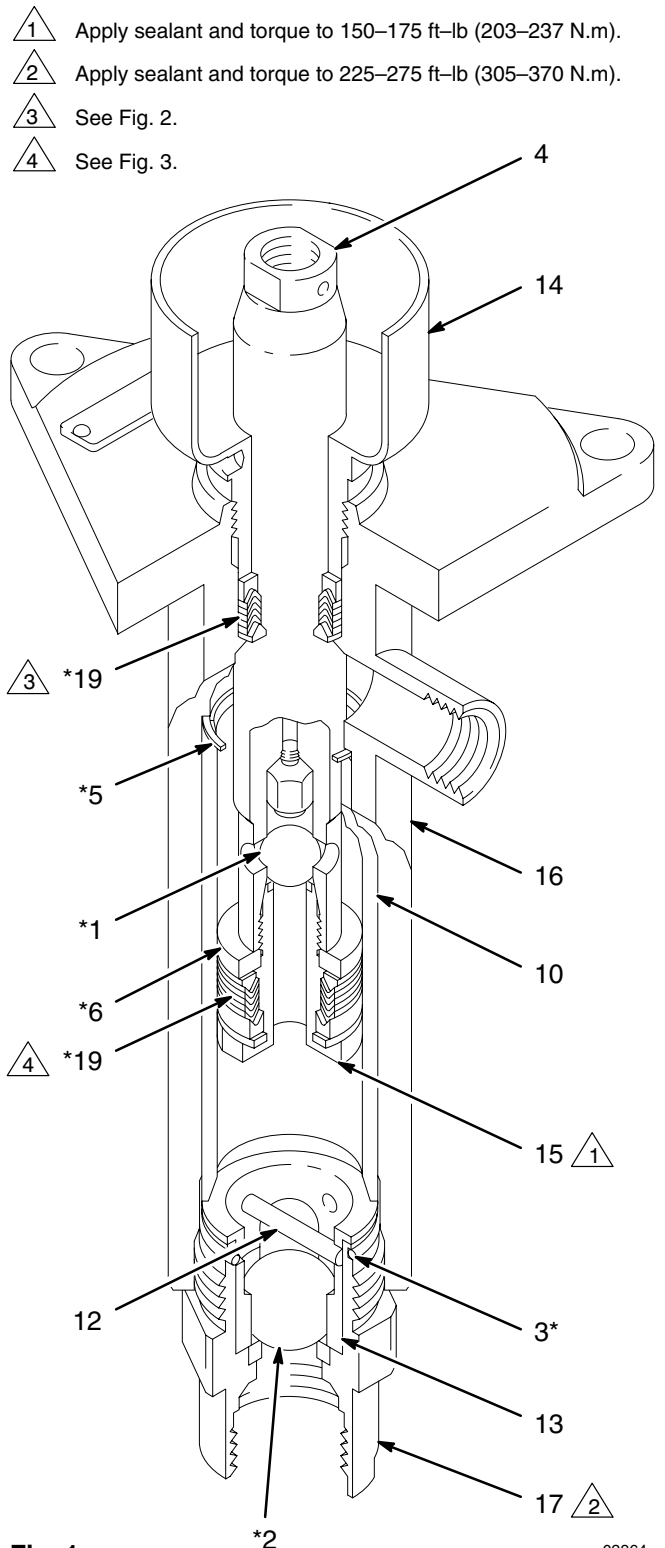

Fig. 1 03864
2. Screw the intake valve housing (17) out of the pump outlet housing (16). Note which set of holes the ball stop pin (12) is in. Remove the pin, ball guide (13), ball (2), and o-ring (3) from the intake valve housing (17). See Fig. 1.
3. Unscrew the wet-cup/packing nut (14) and push the displacement rod (4) down and out of the outlet housing (16).
4. Place the flats of the displacement rod (4) in a vise and unscrew the piston (15) from the rod.
5. Remove the ball (1), retainer (6), and gland/packing stack (19) from the piston.
7. Clean all parts thoroughly, and check for wear, scratches or other damage. Scoring or irregular surfaces on the displacement rod (4) or polished inner wall of the sleeve (10) can cause premature packing wear and leaking. Check these parts by rubbing a finger on the surfaces or by holding the parts up to the light at an angle. If either is worn or scratched, replace it. Be sure the ball seats of the piston (15) and intake valve housing (17) are not chipped or nicked. Replace any worn or damaged parts to ensure that the pump will not leak.
4. Apply thread sealant and screw the piston (15) into the displacement rod (4). Torque to 150–175 ft-lb (203–237 N.m). See Fig. 1.
5. Lubricate the displacement rod (4), and insert it in the bottom of the outlet housing (16). Carefully push it up through the throat packings.
6. Install the ball (2\*), ball guide (13), and ball stop pin (12) in the intake valve housing (17). *Be sure the pin is in the desired set of holes, as was noted in step 2 under **Disassembly**.* (To change the pin location, see **Check Valve Adjustment**, below.) Install the o-ring (3\*) on the intake valve housing (17). Apply thread sealant and screw the assembly into the outlet housing (16). Torque to 225–275 ft-lb (305–370 N.m).